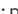

Fig. 77 Driver door: button to open and close rear lid.
- **OR:** pull the  button on the driver door upwards >>> **Fig. 77.** The button also works when the ignition is switched off.
- **EITHER:** pull the  button on the driver door upwards >>> **Fig. 77**.